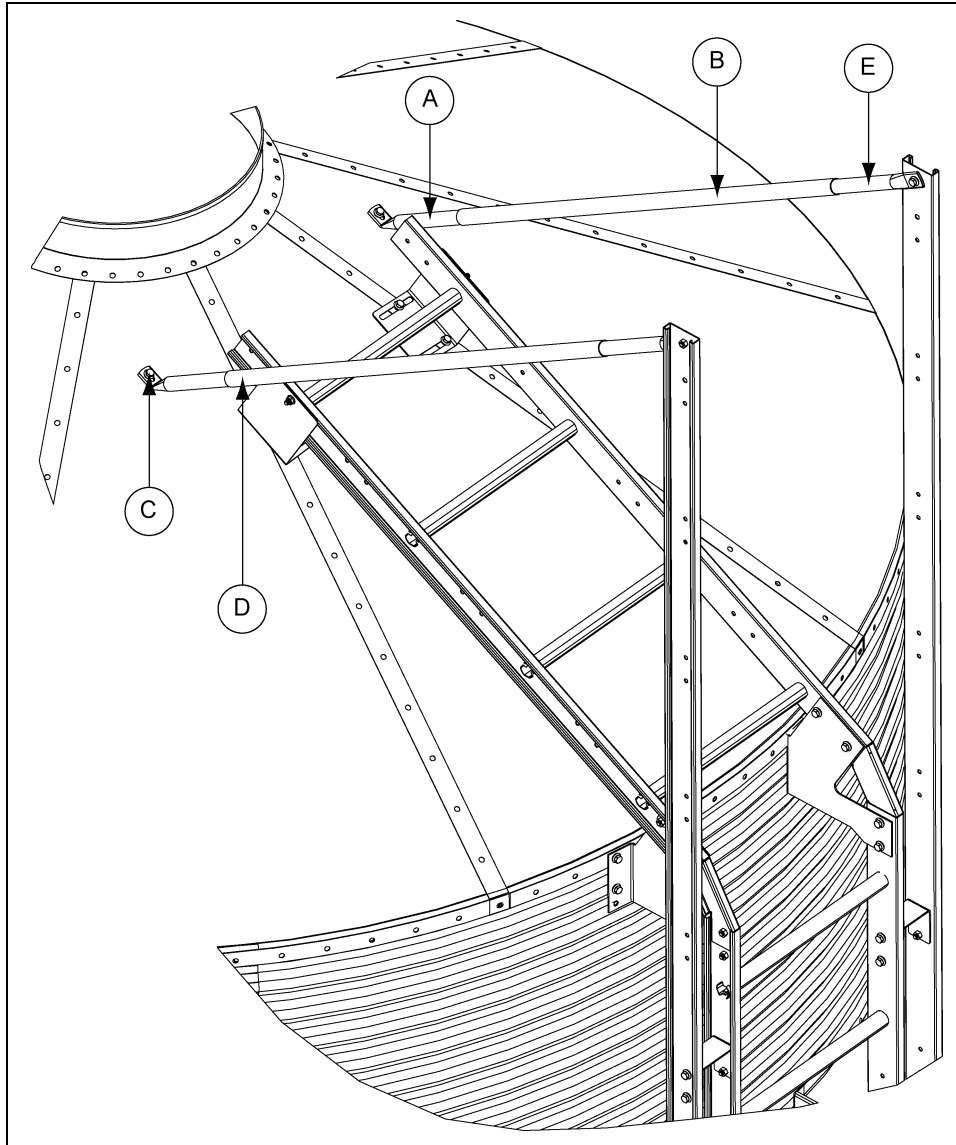

Figure 10B
The adjustable braces must be attached at this time. A large diameter tube and two (2) smaller tubes are used to make up one adjustable brace. Slip the smaller tubes inside the larger tubes and attach one smaller tube to the top of the ladder extension rail. Adjust the other smaller tube so the bottom of the flattened tube reaches the roof panel. Field drill four (4) 5/16" holes through both large and small tubes and bolt together using 1/4" x 1-1/2" bolts and nuts. This prevents the adjustable braces from slipping. (See Figure 10B.)